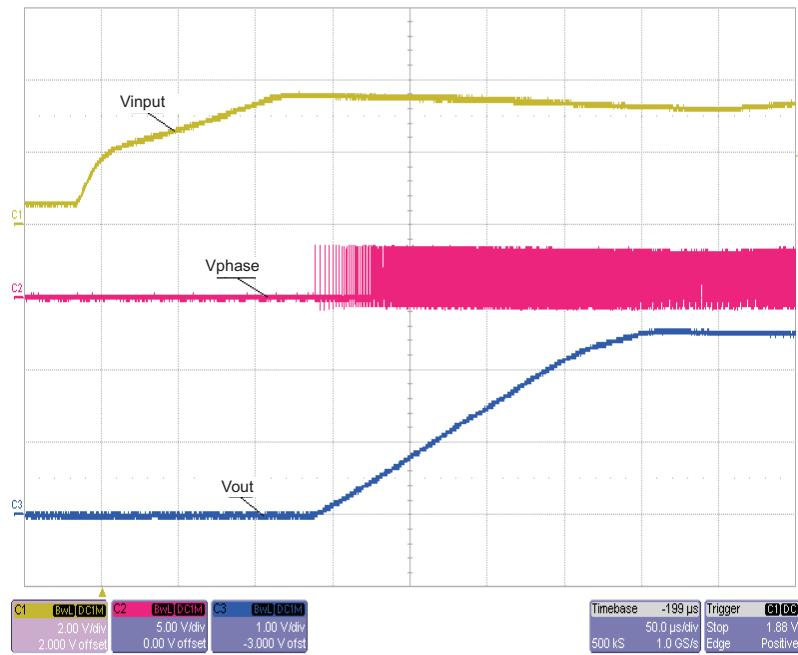
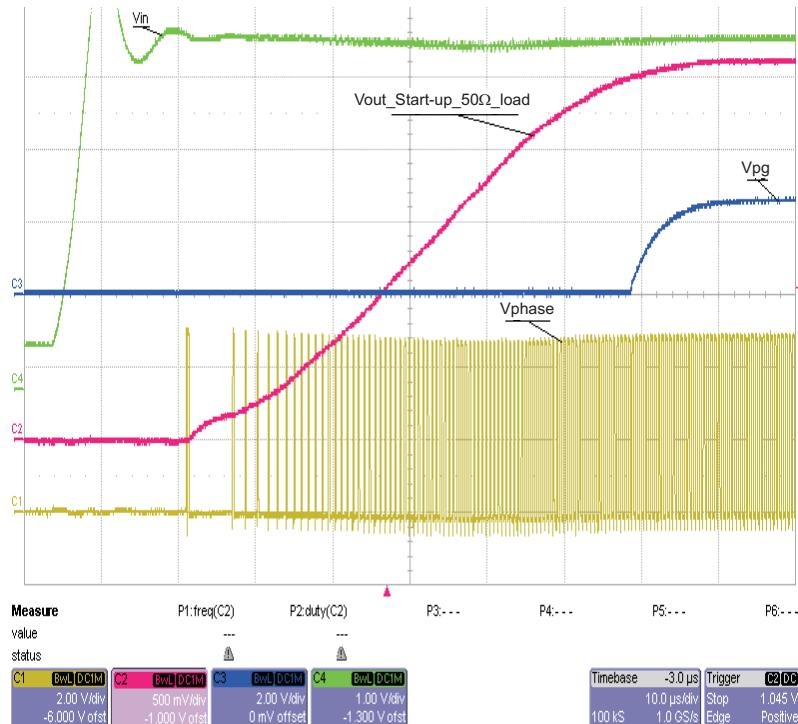

Figure 6. Start-up in PWM/PFM Mode. Vin = 4 V, Vout = 2.5 V, Iout = 0.5 A; CH1 = Input Voltage; CH2 = Phase; CH3 = Output Voltage
Figure 7. Start-up in PWM/PFM Mode. Vin = 5 V, Vout = 2.5 V, Iout = 0.5 A; CH4 = Input Voltage; CH1 = Phase; CH2 = Output Voltage; CH3 = PG
8. Set shunt on JP1 to JP1-PWM/PFM. Disconnect positive lead of input supply, and change output load to 5 Ω . Set CH1 to 2 Vdc/div, CH3 to 1 Vdc/div, and time to 50 μ s/div. Set trigger to CH1, trigger level to 2 V, and arm single-sequence trigger. Hot-plug input supply. See Figure 6 for a typical power up. Figure 7 shows the timing of the PG pin applying the input hot plug.